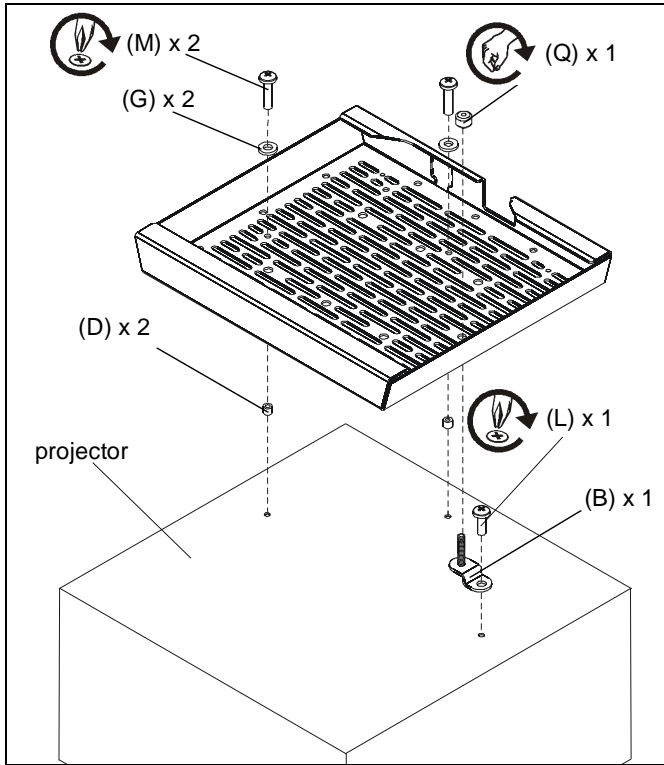

Figure 7
1. Align projector and security mount drawer so that the projector is oriented correctly and mounting holes are aligned. (See Figure 7)
2. Secure projector to mount using two M4 x 16mm Phillips head machine screws (M), two M4 washers (G) and two small spacers (D). Also orient one mounting foot (B) so that threaded end is in line with mounting hole in mount and secure foot to mount using one thumbnut (Q). Secure projector end of foot to projector using one M4 x 12mm Phillips head machine screw (L). Spacers should be placed between projector and mount. (See Figure 7)